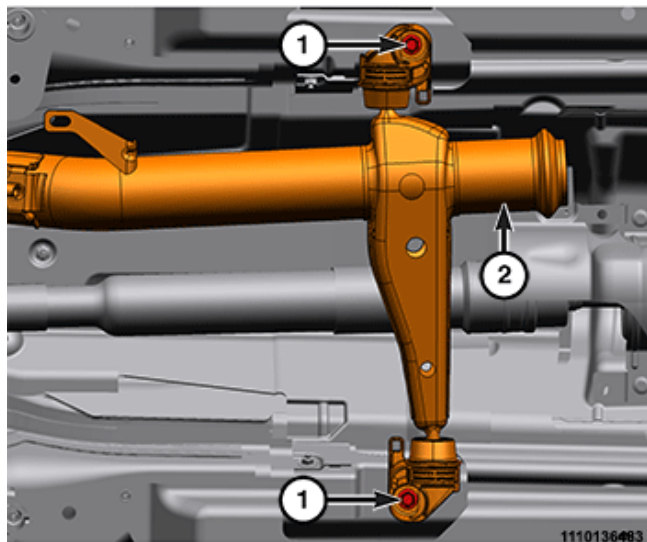

Figure 37 – Crossunder Pipe Isolators
- c. Remove the bolts (1) securing the crossunder pipe rear isolators to the vehicle body (Figure 37).